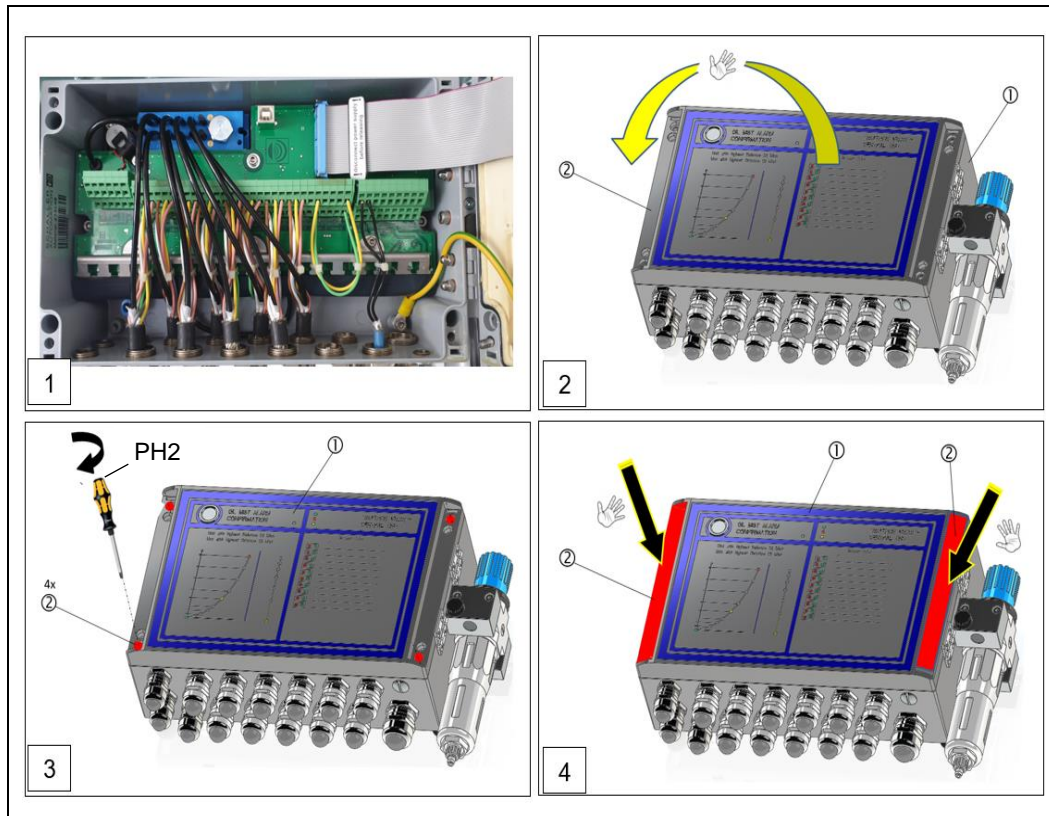

Fig.: 58 : Close the VN301^{plus} central unit (steps 1- 4)
3. Press the oil mist alarm confirmation button again. [①]
- ▶ The "Supply pressure" display mode is indicated by the LED for "Air Supply failure" [②] flashing.
- ▶ The current supply pressure level is now displayed on the OMC graph on the left-hand side. [⑤]
- ▶ The nominal pressure of 2.5 bar is indicated by the LED light for 50% OMC [⑥] turning on continuously.
- ▶ If the supply pressure of 2.5 bar is not achieved, the 50% OMC [⑥] LED flashes, as in the figure below. In this example, the supply pressure is only 2 bar and therefore has to be adjusted.
4. Set the supply pressure to 2.5 bar using the pressure regulator unit [①], as shown in Figure 58:
- ▶ Unlock the blue adjusting cap [②] on the pressure regulator, i.e. push it upwards.
- ▶ Turning the blue adjusting cap [②] anticlockwise reduces the pressure, turning it clockwise increases the pressure.
- ▶ Push the blue adjusting cap [②] on the pressure regulator down again to lock it.